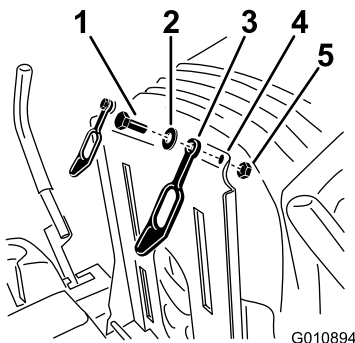

Figure 1
3. Install to the strap to the same hole in the rear of the seat pan as shown in Figure 1. Use a bolt (5/16 x 1 inch), washer and lock nut (5/16 inch) to secure the strap to the seat pan. Repeat this step for the opposite side.